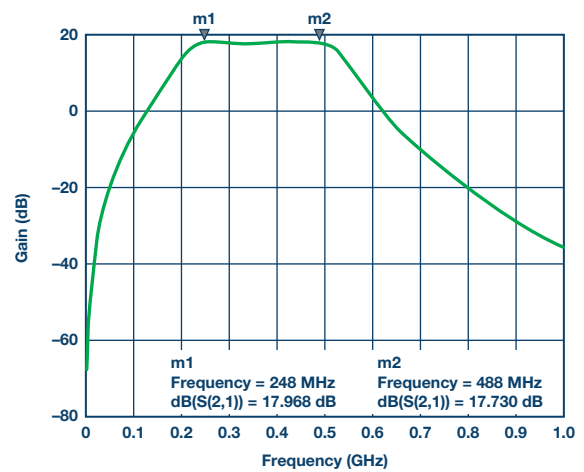

Figure 21. Filter transmission response with Murata LQW18A inductors.
6. Replace all ideal inductors with the inductor S parameter files of the intended device (for example, Murata LQW18A). The insertion loss is a little bit higher than using ideal inductors. The simulation result changes slightly, as shown in Figure 21.